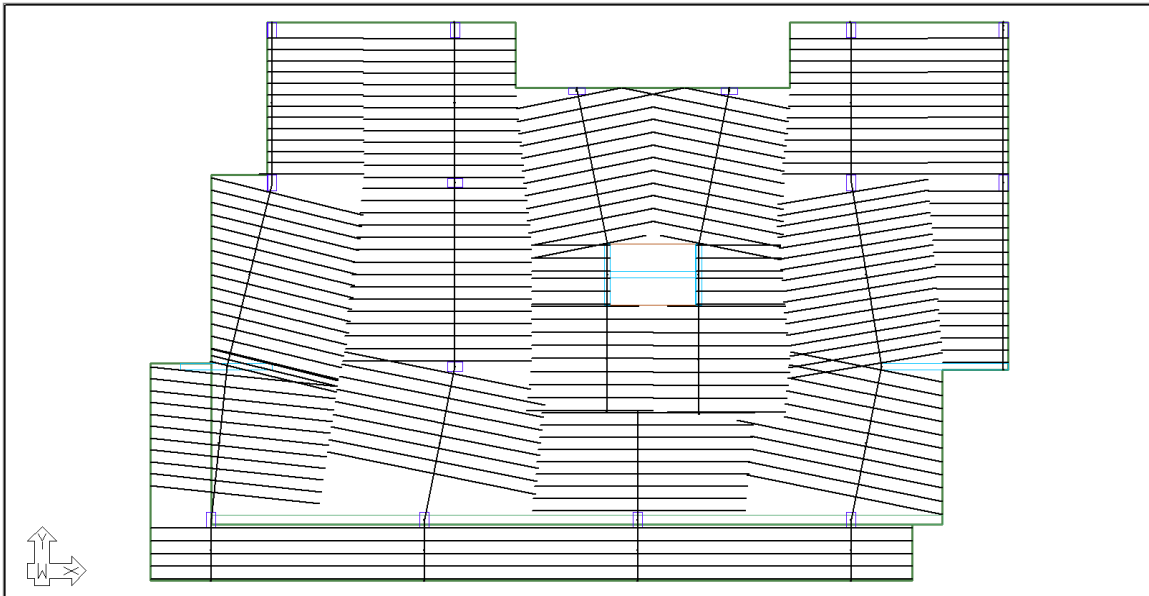

FIGURE 9-33
- Go to *Floor Design*->*Section Design* and click on the **Generate Sections**  icon. When the process is completed, the user should see design sections cut as shown in **FIGURE 9-33**.